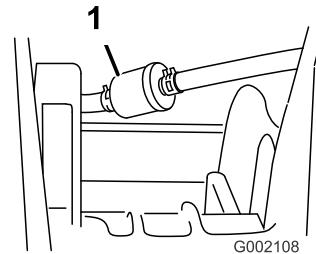

Figure 32
3. Remove the clamps securing the fuel filter to the fuel lines (Figure 32).